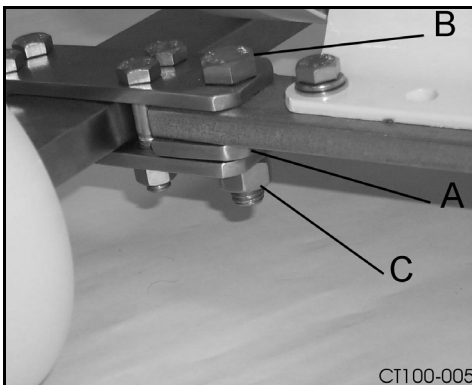

Figure 5 - Spacer Location
7. Place the spacer (Figure 5, item A) between the bottom of the pump leg bracket and bottom bracket piece of the bracket assembly. (See Figure 5).
8. Install the large bolt and capscrew (Figure 5, items B and C).